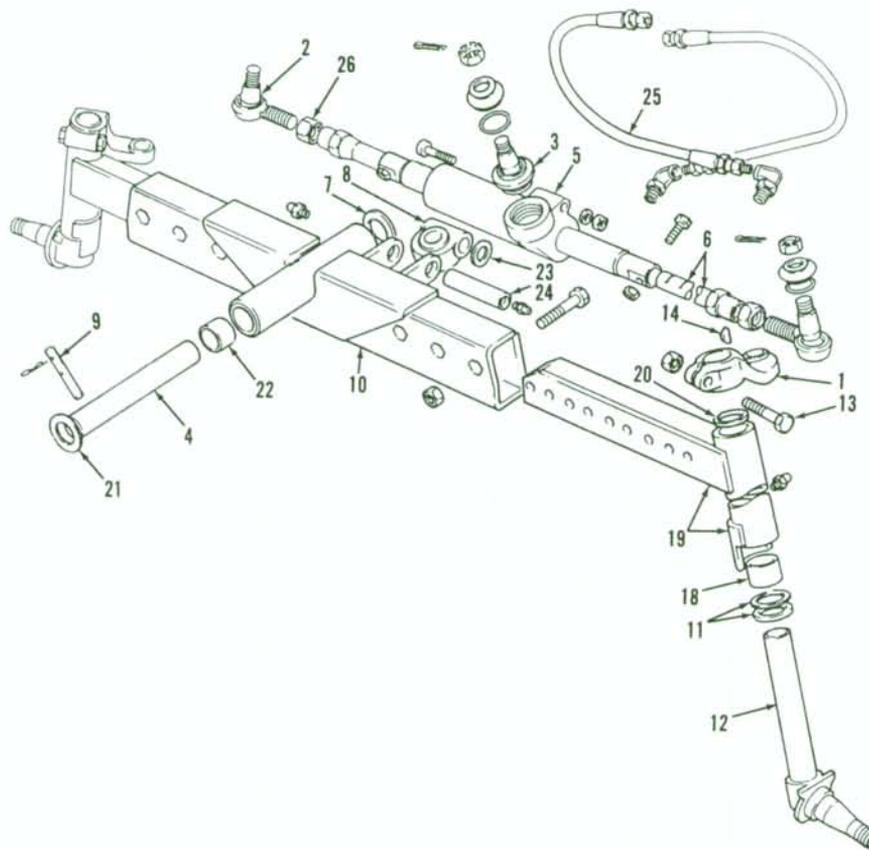

Fig. 8—Exploded view of front axle typical of type used on two-wheel-drive 399 models.
3. SPINDLES, AXLE EXTENSIONS AND BUSHINGS. To remove spindle (12—Fig. 7 or Fig. 8), first remove the wheel and hub. Disconnect rod end (2) from steering arm (1), remove clamp screw (13) from steering arm, then remove steering arm. Remove key (14) and seal (20) from top of spindle, then lower spindle out of axle extension (19). Remove thrust bearing (11) from spindle. Clean and inspect parts for wear or other damage and renew as necessary.
of the axle, such as with a support located under engine sump. Removal of wheels, spindles and axle extensions will reduce weight and may make handling the center member easier; however, the complete axle assembly can be removed as a unit. Disconnect hydrostatic steering hoses from the steering cylinder or cylinders and cover openings to prevent the entry of dirt. Support the axle with a suitable jack to prevent tipping while permitting the axle to be lowered and moved safely. Remove retaining pin (9—Fig. 7 or Fig. 8), then use a suitable puller to withdraw axle pivot pin (4). Carefully lower the axle assembly and roll axle from under tractor.
Check axle pivot bushings and renew if necessary. Bushings are located in support housing of 340-360 models and should be installed flush to 0.5 mm (0.020 inch) below flush (A—Fig. 9) with housing bore. Split (Fig. 9) in bushing should be down and hole (B) for grease passage should be up as shown. Axle pivot bushings (22—Fig. 8) are located in axle of 399 models. On all models, it may be necessary to ream bushings after installation. Reverse removal procedure when assembling. Axle end play should be 0.05-0.25 mm (0.002-0.010 inch) on pivot pin. Push the axle toward rear on pivot pin, then measure axle end play with a feeler gauge as shown in Fig. 10 or Fig. 11. Shims (21—Fig. 7 or Fig. 8) are available in various thick-